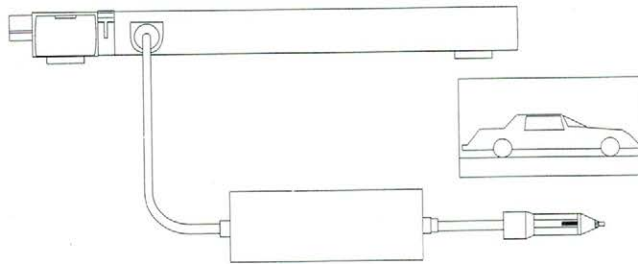

Figure 4-6. Powering Computer from Auto Adapter
2. Plug the computer power cable into the power connector on the battery pack. Plug the other end of the cable into the auto adapter as shown in Figure 4-6.